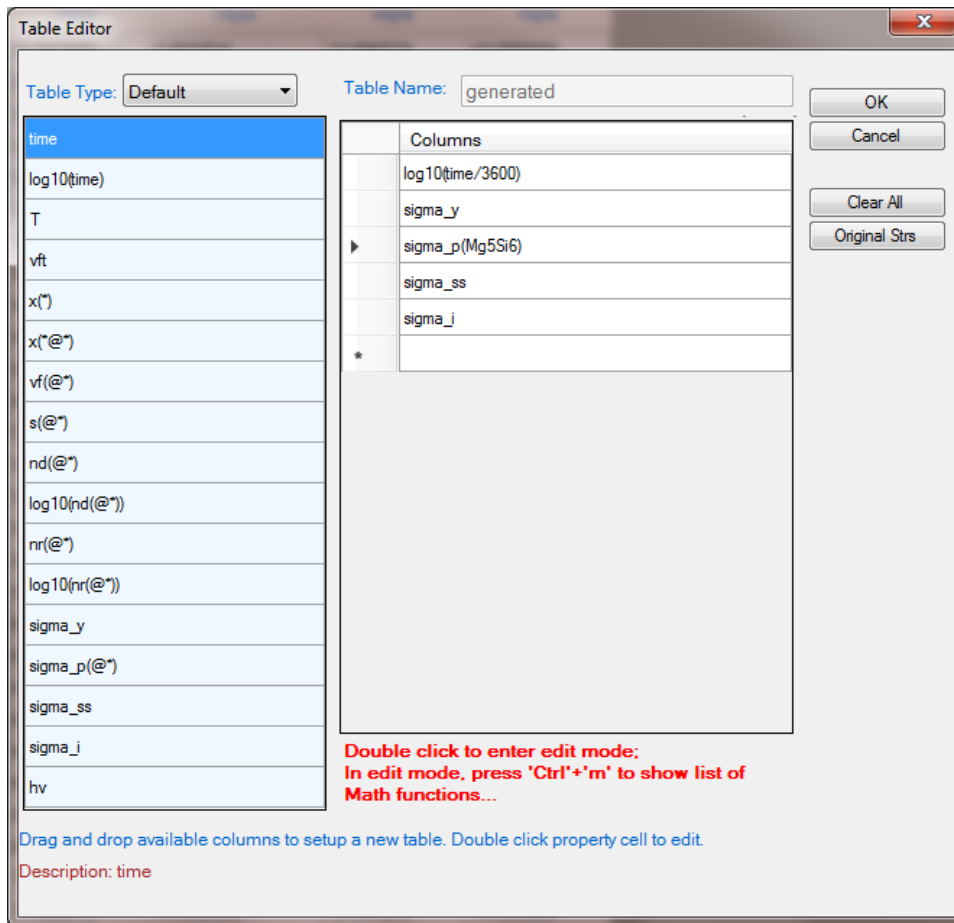

Figure 3.6.2: Create a new table for yield strength plot
- Create a new table as shown in Figure 3.6.2, and select all the columns in the newly created table to create a plot;